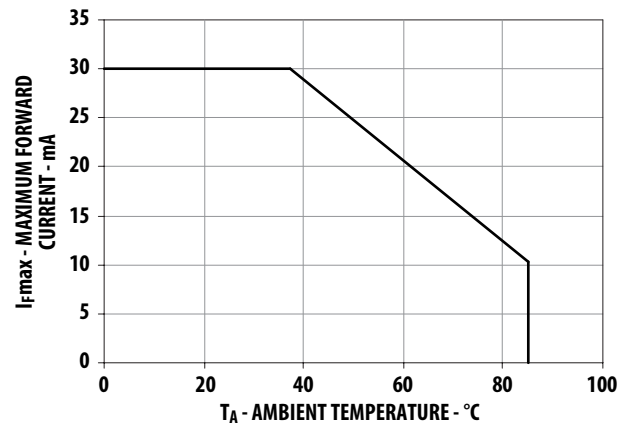

Figure 4. Maximum Forward Current vs Ambient Temperature
1. Derate linearly as shown in figure 4.